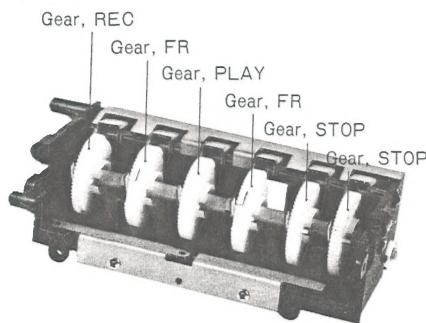

Fig. 16
5) After gear replacement, return each gear to its proper position. (See figure 16)